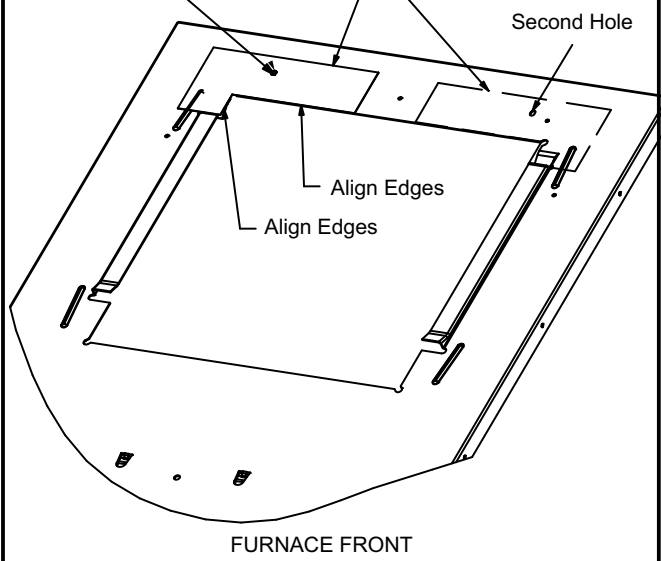

FIGURE 3
- 23 - Align template with the blower deck cutout as shown in figure 3. If necessary drill a 3/16" diameter clearance hole. Flip the template around and drill another hole of same size on other side of blower deck. See figure 3.